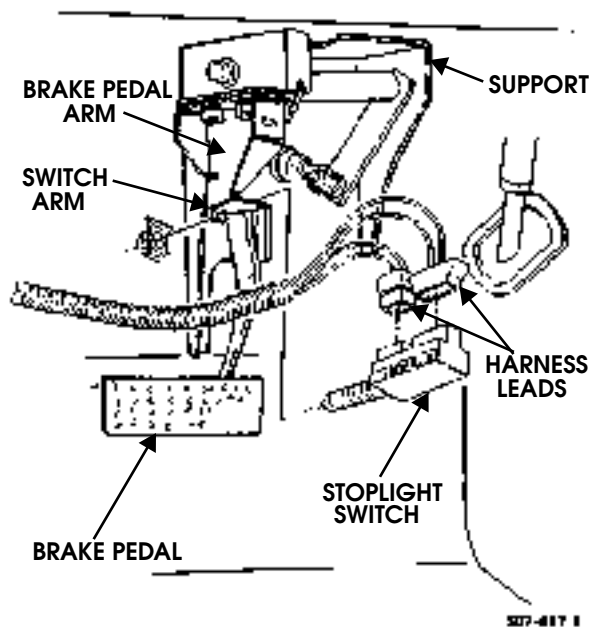

Figure 10-175: Stoplight Switch Replacement
1. Disconnect two harness leads from stoplight switch (Figure 10-175).
1. Install stoplight switch into bracket (Figure 10-175).